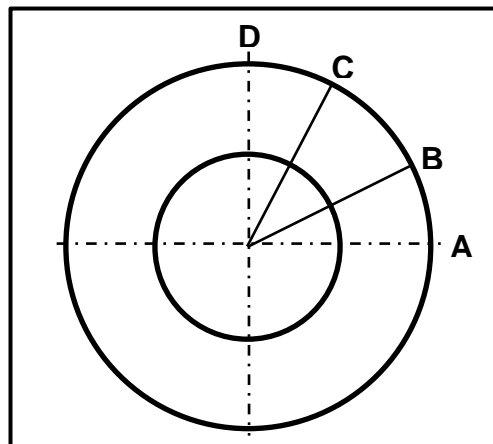

FIGURE 11.2
11.2 FIGURE 11.2 shows a truncated cone. The vertical height of the truncated cone is 600 mm, and the base and top diameters are 600 mm and 400 mm respectively. Answer the questions that follow.